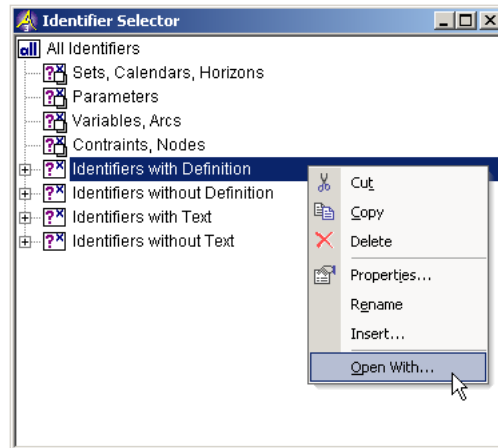

Figure 3.15: Identifier Selector window
- ▶ use the right mouse and select the **Open With...** command from the popup menu (see Figure 3.15).